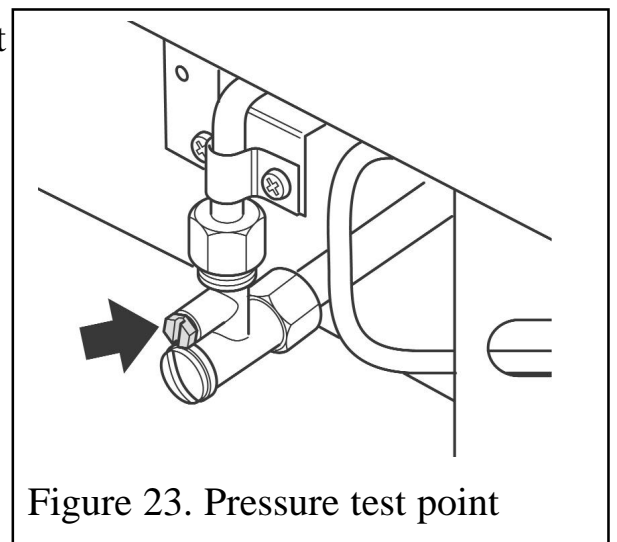

Figure 23. Pressure test point
1. Check the inlet pressure by fitting a pressure gauge at the test point. The test point is on the inlet 'T' connector (See figure 23). Check the pressure with the appliance alight and set at maximum output.